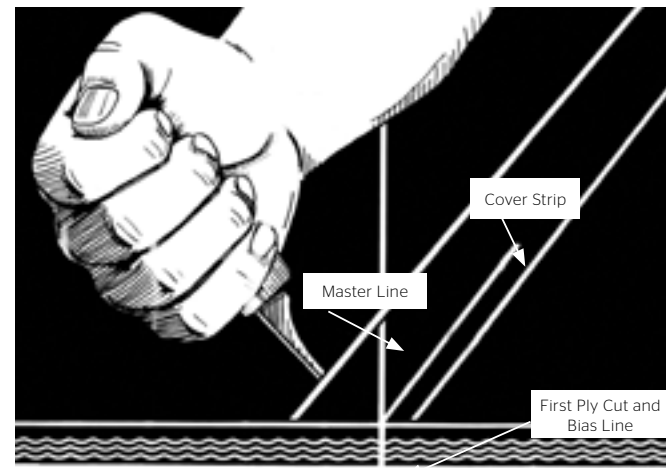

Fig. 5-7: Showing master line and top cover insert cut lines. Note position of hand for cutting 45° bevels.
10. Lay out the cover strip for removal. Draw one line parallel to and approximately 1/2 in. (13mm) from the bias line and on the splice side. Draw a second line on the belt side of the bias line but at a distance of 2 in. (50mm) (Fig. 5-7)
11. Cut along the two covers cut lines just made. The line on the belt side of the bias line should be skived per Fig. 5-7. The other cut may be vertical. Do not cut too deep. If you feel fabric, you have damaged the belt.